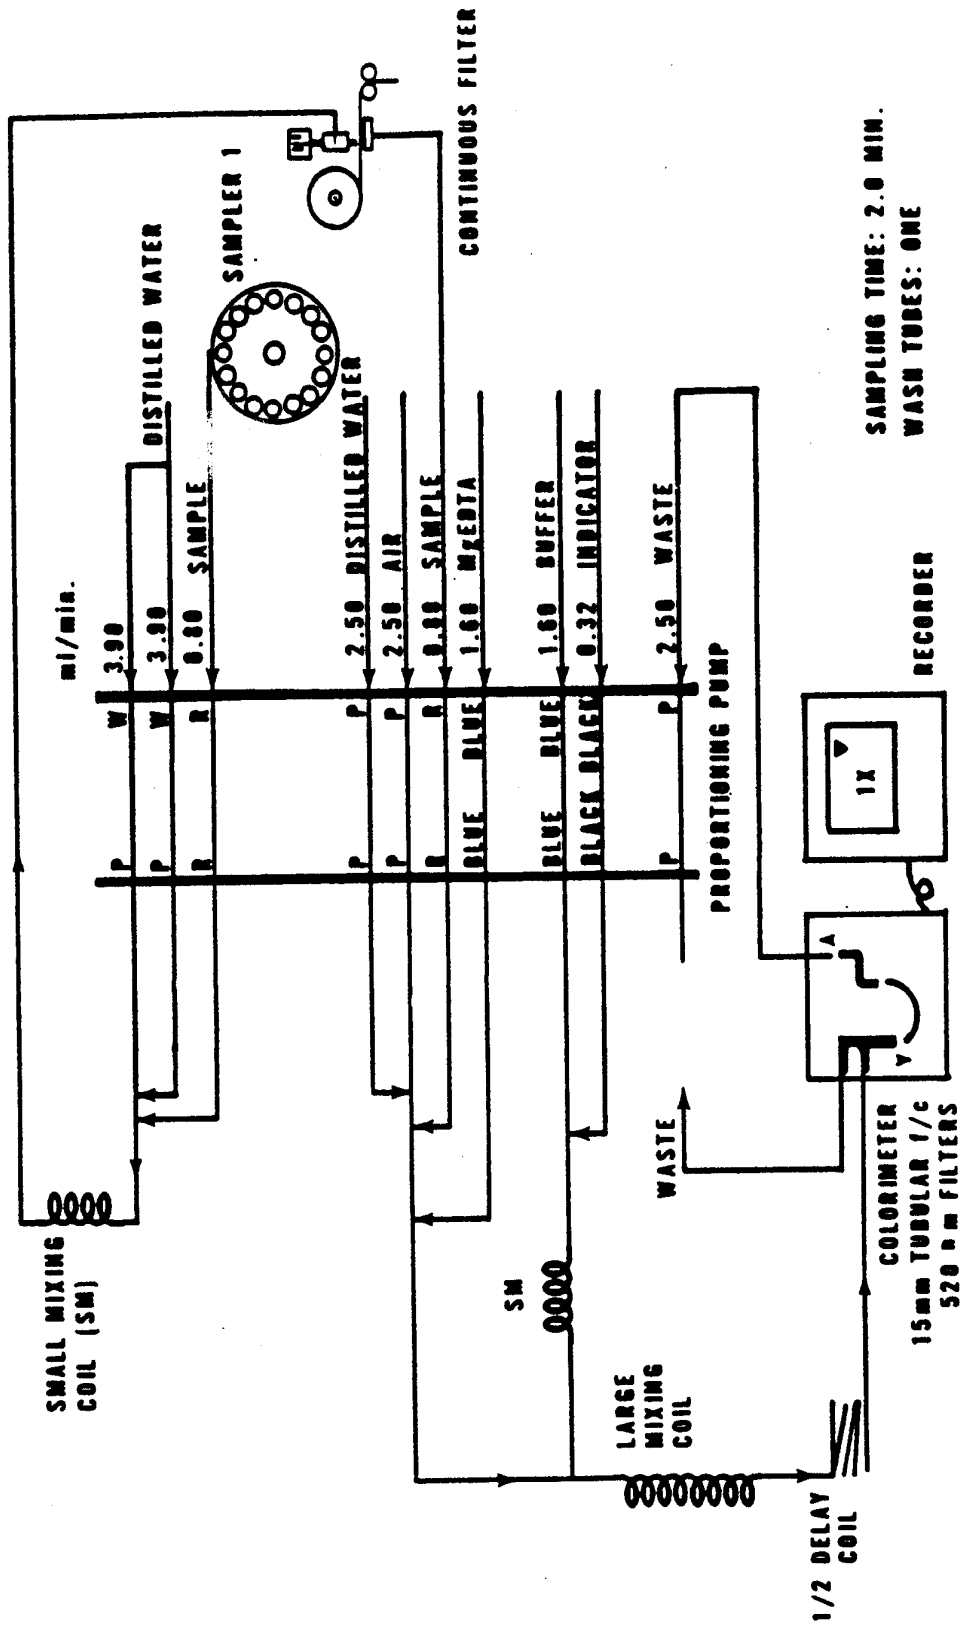

FIGURE 1. HARDNESS MANIFOLD AA-1
7.3 Set up manifold as shown in Figure 1.